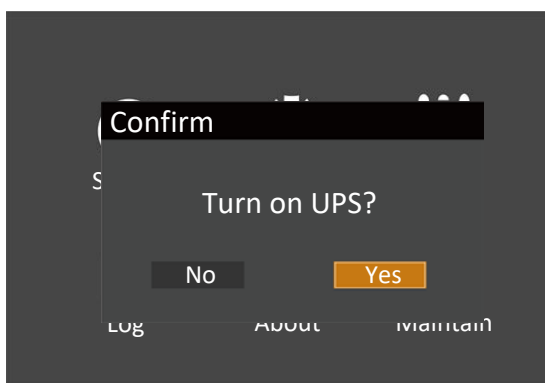

Figure 2-21 Turning on UPS
2. Press the power button for two seconds, the LCD prompts a dialogue box shown in Figure 2-21.